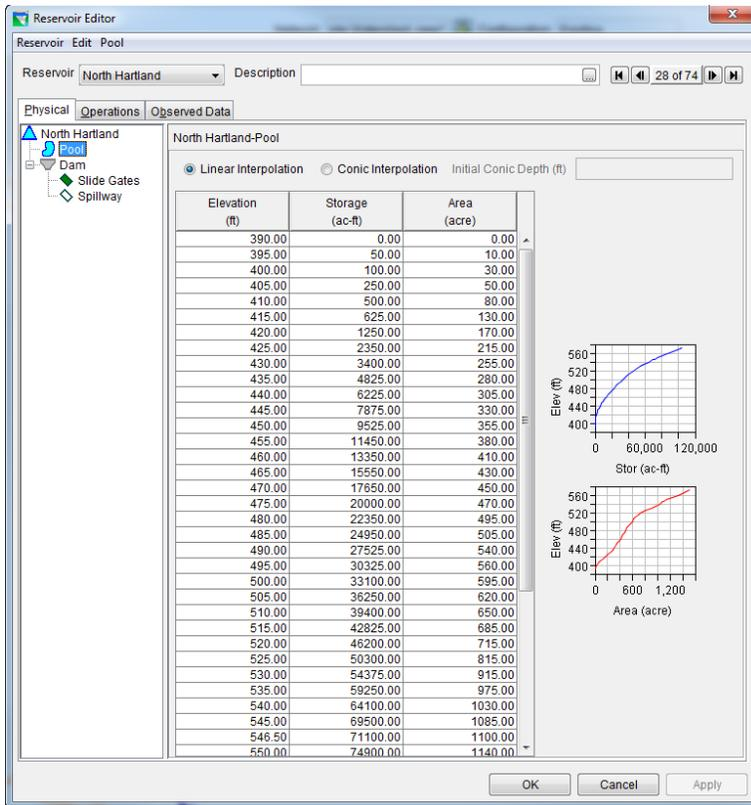
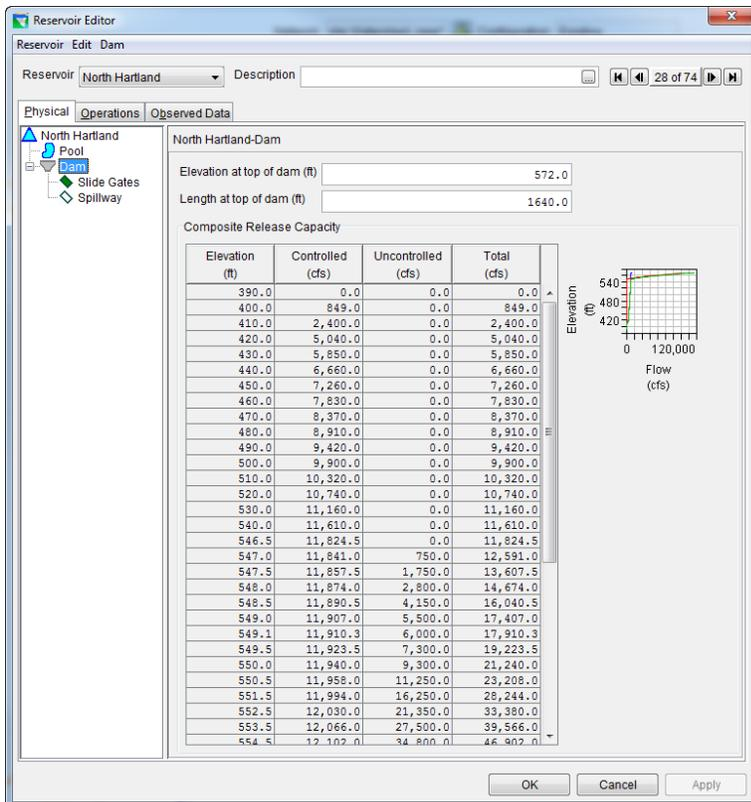

Figure 3: Reservoir Editor: Physical Tab -- Pool
Figure 4: Reservoir Editor: Physical Tab -- Dam
The physical characteristics of the reservoir are separated between the Pool and the Dam in the HEC-ResSim model. The elevation-storage-area defines the pool as shown in Figure 3. The dam consists of two types of outlets: (1) controlled slide gates, and (2) uncontrolled outlet, as shown in Figure 4. All physical and operations data were provided by US Army Corps New England District, through both a previously created ResSim model and the Reservoir Regulation Team website74.